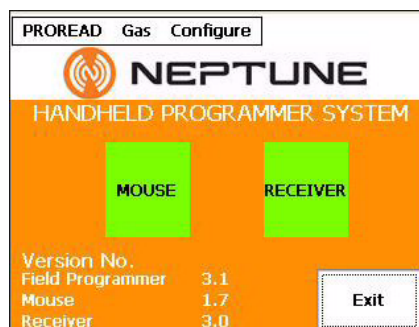

Figure 5.1 Neptune Programmer System Start Screen
- 1 On the Neptune Handheld Programming System start screen, touch or click **Configure** at the top of the screen. See Figure 5.1.